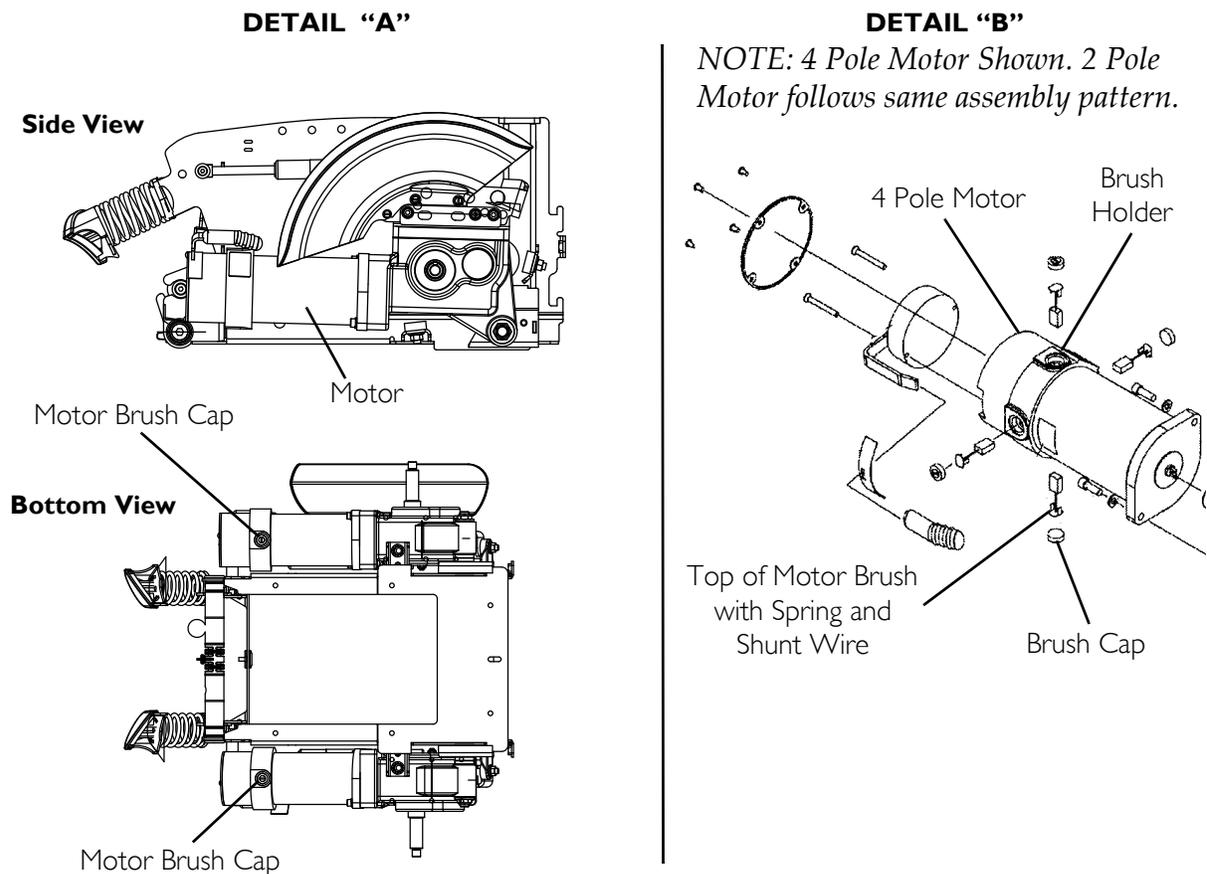

FIGURE 3.3 Motor Brush Inspection and/or Replacement
NOTE: For this procedure, refer to FIGURE 3.3 on page 33.
3. Locate a brush cap on the motor. See Detail “A” in FIGURE 3.3.
5. Pull the motor brush partially out of the brush holder. See Detail “B” in FIGURE 3.3.